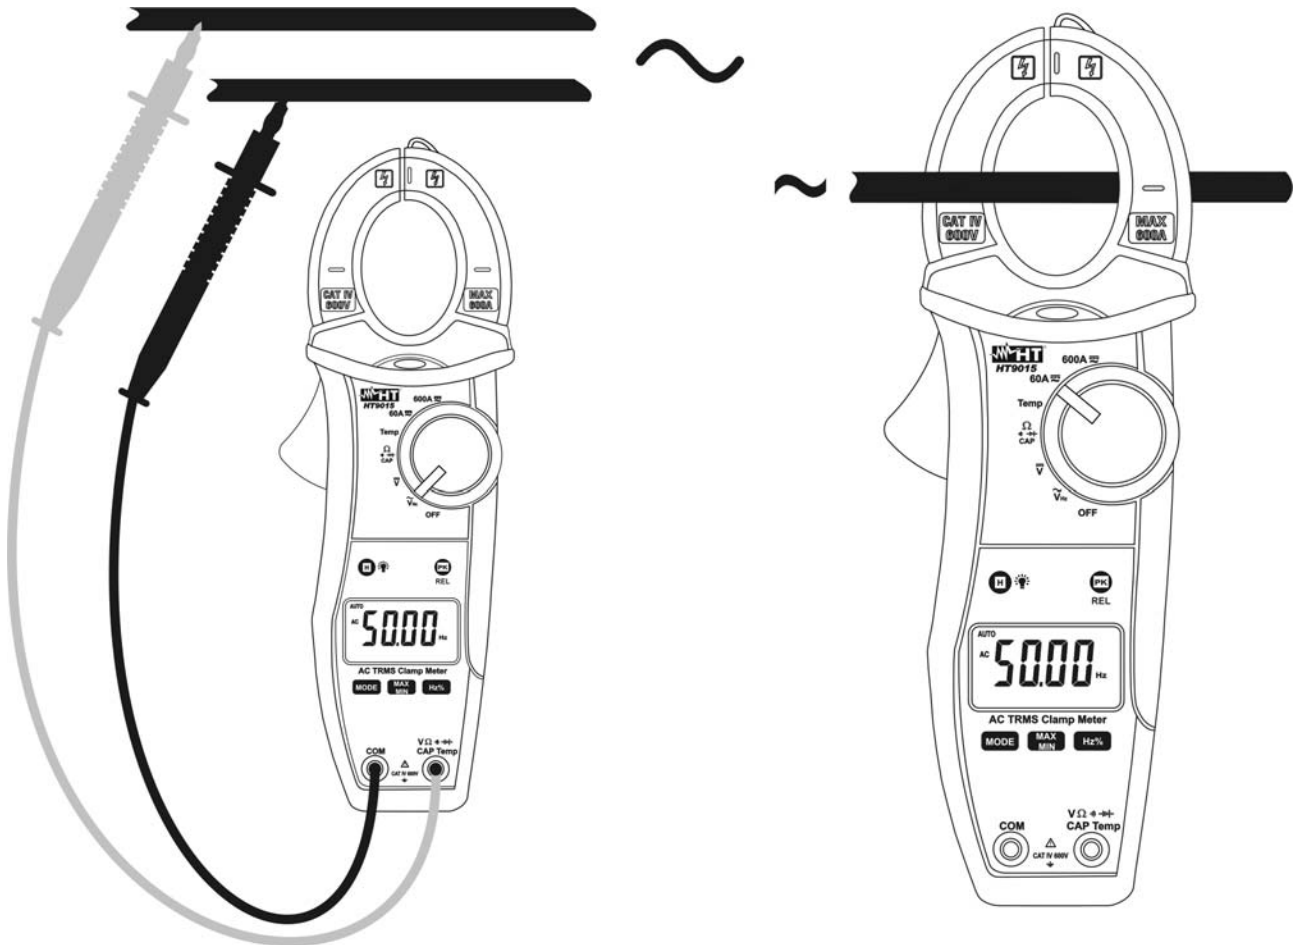

Fig. 10: Taking frequency and duty cycle measurements
3. Insert the red test lead plug into **VΩ+/-CAP-Temp** jack and the black test lead plug into **COM** jack (see Fig. 10 – left side) for frequency measurement with test leads. Open the clamp and put the conductor to be tested in the middle of the clamp jaw (see Fig. 10 – right side) for frequency measurements with jaws, then reading will be displayed. Bargraph is disabled in frequency and duty cycle test